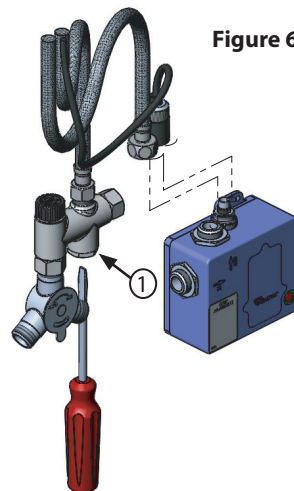

Figure 6
If the sensor faucet is in need of repair and must be serviced and the blue control module removed, the by-pass valve must be closed with a flat head screwdriver by accessing the shut-off screw on the bottom-side of the manifold (fig. 6①). The controller can then be removed for servicing and the faucet can continue to be used by changing it to the manual mode as described above.